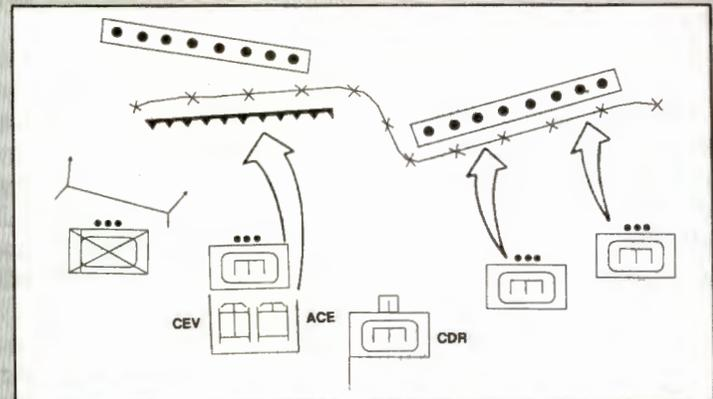

Figure 2
- **Mass:** Crack the obstacle, rupture the defense; find a weakness or create one. You must open enough lanes to push sufficient maneuver forces to the far side (Figures 2 and 3). Doctrine calls for a minimum of two lanes per task force. Mass enough engineer force against the obstacle to reduce it using multiple techniques. To prepare, make this part of your engineer estimate. What resources will you need to open two, three, or four lanes? Where and when will you get them? How will you replace casualties and continue to press the fight?